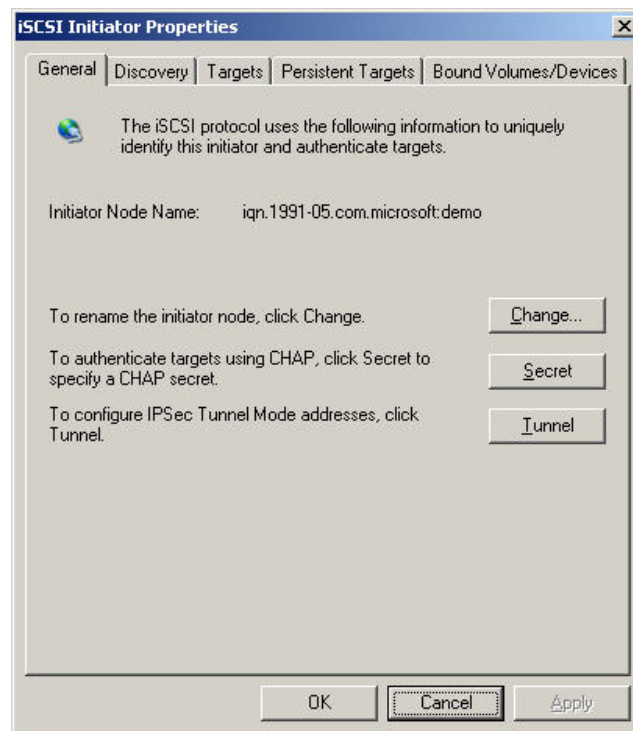

Figure D.1
1. Run Microsoft iSCSI Initiator version 2.06. Please see Figure D.1.